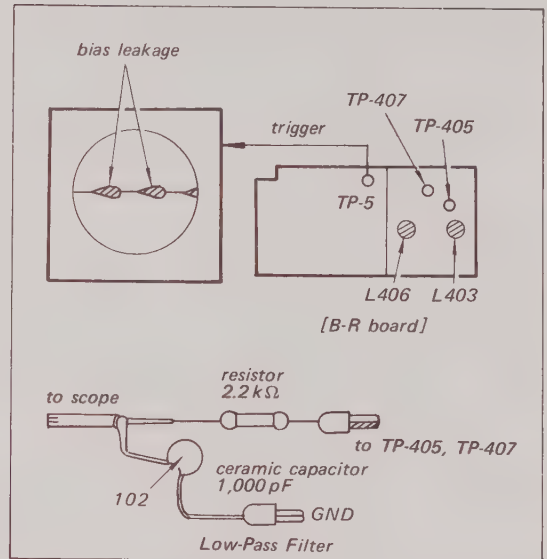

Fig. 8-36. Y bias/audio dub bias trap adjustment test setup
2. Prepare the low-pass filter shown in Fig. 8-36, and connect it to the scope.
3. Connect the low-pass filter to TP-405 on the B-R board. See Fig. 8-36.
6. Adjust L403 for minimum signal as shown in Fig. 8-36.
1. Connect the scope to TP-407 on the B-R board using the low-pass filter shown in Fig. 8-36.